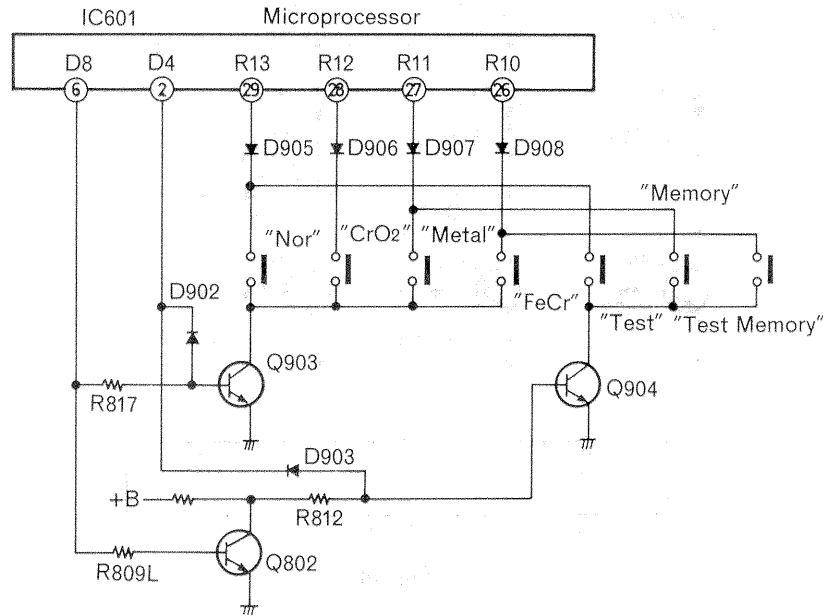

Fig. 13
The relationship between the 7 types of key input and 4-bit key input from the microprocessor are shown in Table 4. They are obtained by synchronizing the L/R selection signal output from D8 of the microprocessor. That is, L/R selection signal is inverted every 20 ms, and Q903, shown in Fig.13, is activated at Hi potential, so the key input shown in Table 4 (Item (1) — (4) ) is detected. At Lo potential, Q904 is activated, so the key input shown in Table 4 (Item (5) — (7) ) is detected. Q903 and Q904 operate in opposite ways so key input does not overlap. When there are 2 or more key inputs to the 4-bit input, operations are ignored.
Key input terminals R10 — R13 are concurrently used as REC equalizer/bias & A/D control data output terminals; key input during output of data is inhibited. Output terminal ② of IC601 shown in Fig. 13 is set to Lo potential during output of data from terminals R10 - R13, Q903 and Q904 are cut off and key input is inhibited.